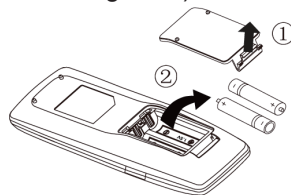

Fig. 1
(1) Lift the cover along the direction of arrow (as shown in Fig 1 ①).
(2) Take out the original batteries (as shown in Fig 1 ②).